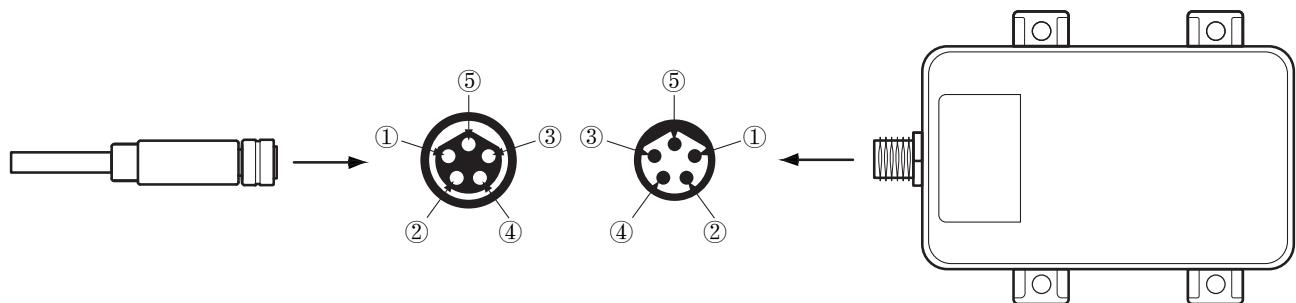

Figure 4. The aviation cable and product connector diagram
As shown in Figure 4, the interface is type B. Pay attention to the limit direction. Align the cable port ⑤ with the corresponding product interface port ⑤, then insert and tighten.